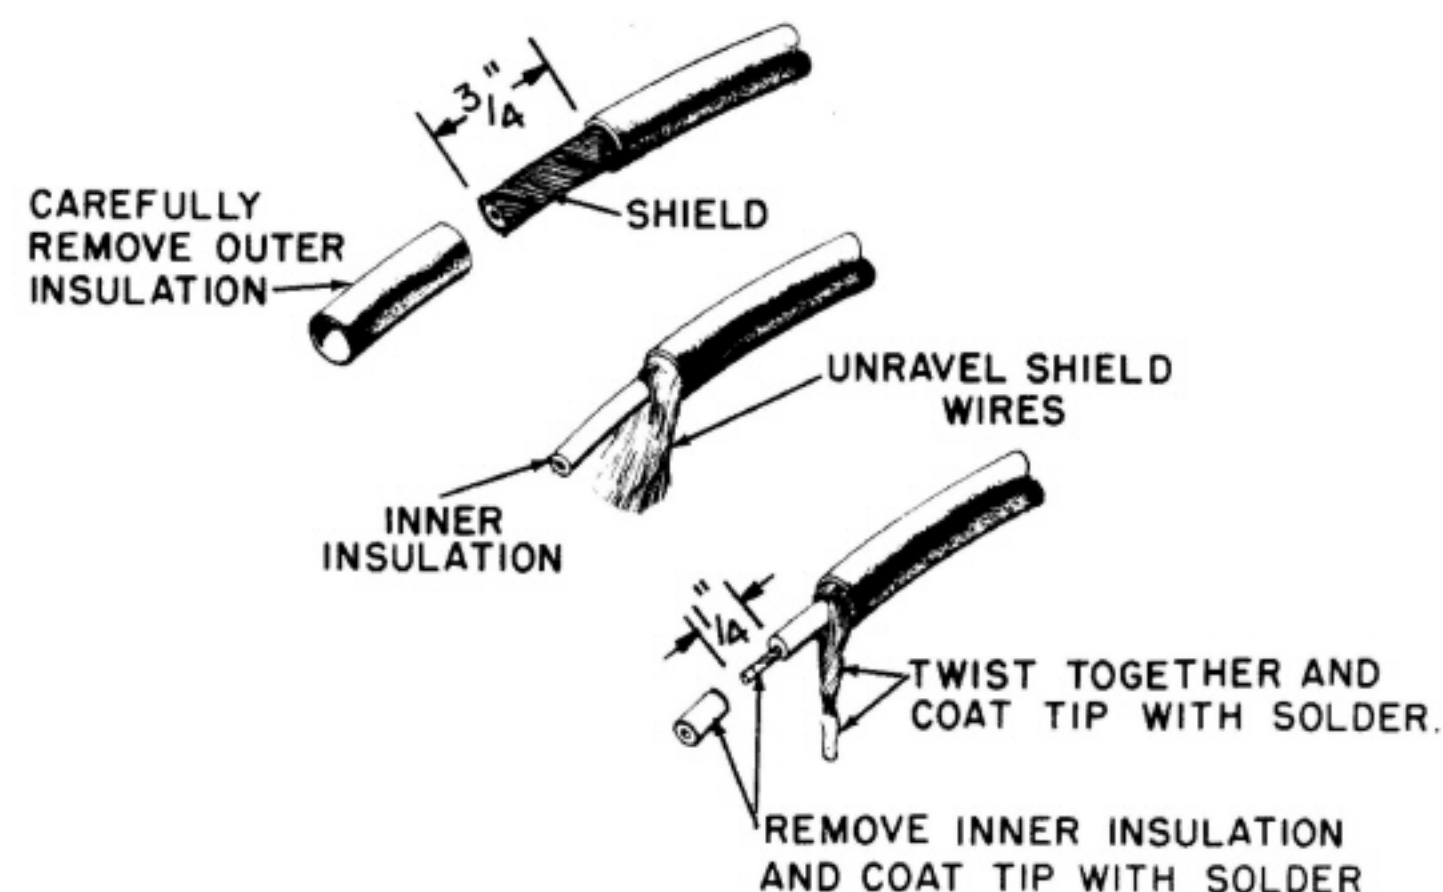

FIGURE 8
- ☐ Cut a piece of shielded wire 5" long. See Figure 8 for cable preparation. From one end, remove 1/2" of outer plastic cover and shield. Remove 1/4" of insulation from the center conductor. From the other end, remove 3/4" of plastic cover, unravel shield and twist into single conductor. Remove 1/4" of insulation from the center conductor.